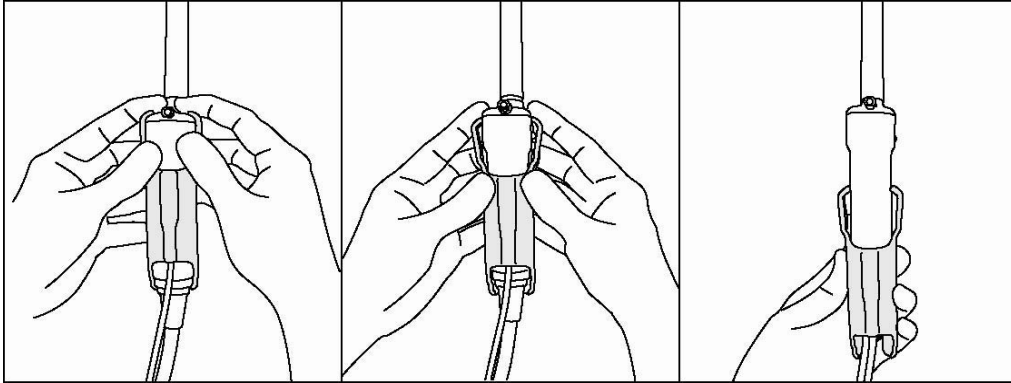

Fig.15 How to release the Magnetic sensor attachment from the probe
- 1) Release the Magnetic sensor attachment from the probe as shown in Fig.15.